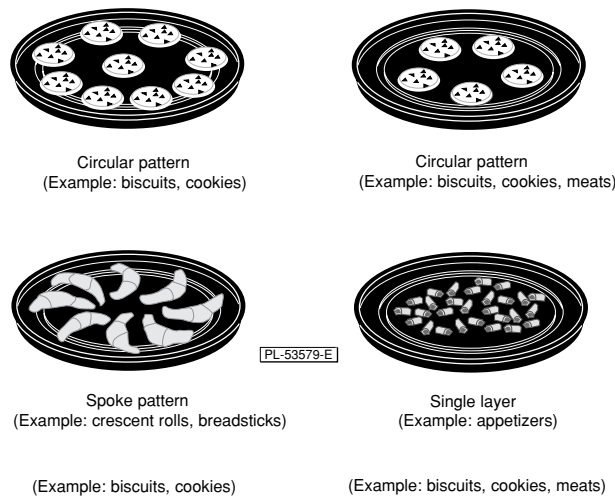

Fig. 4
- To ensure consistent and even browning when cooking foods directly on the black metal tray, arrange food as shown (Fig. 4). Foods can touch but should not overlap.